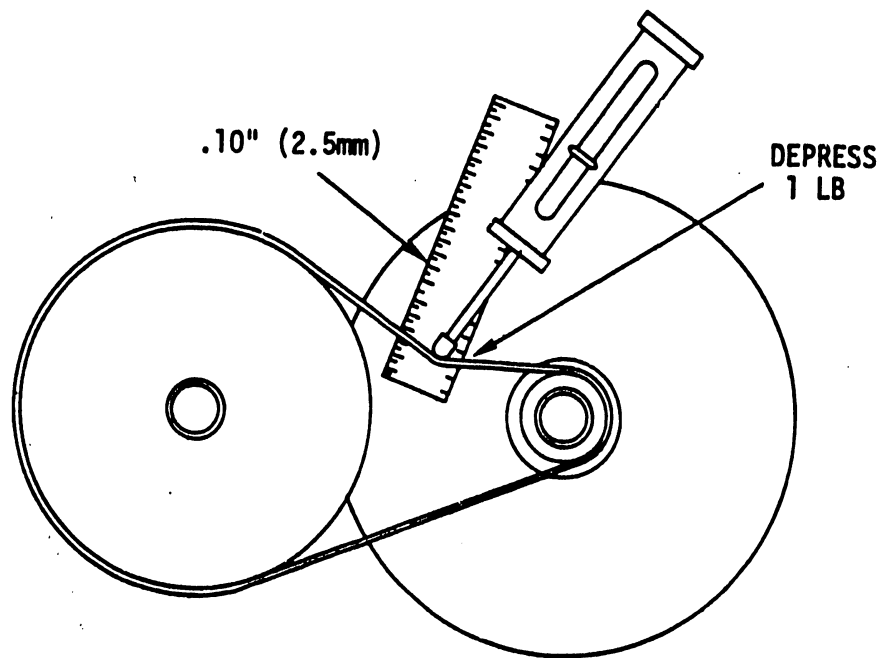

FIGURE 5-30 DRIVE MOTOR AND CARRIAGE DRIVE BELT CHECK
- 2) Drive Motor and Carriage Drive Belt - A force of 1 lb. should deflect belt .10" (.25 cm). See Figure 5-30.